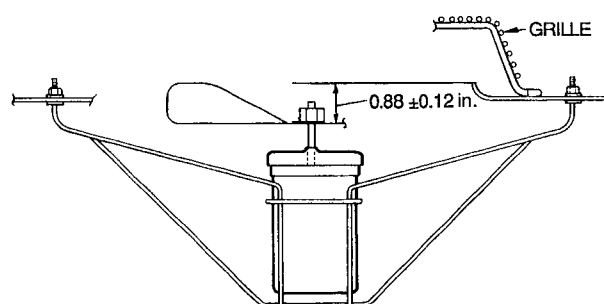

Fig. 36 — Outdoor-Fan Adjustment
4. Adjust fan height on shaft using a straightedge placed across venturi and measure per Fig. 36.